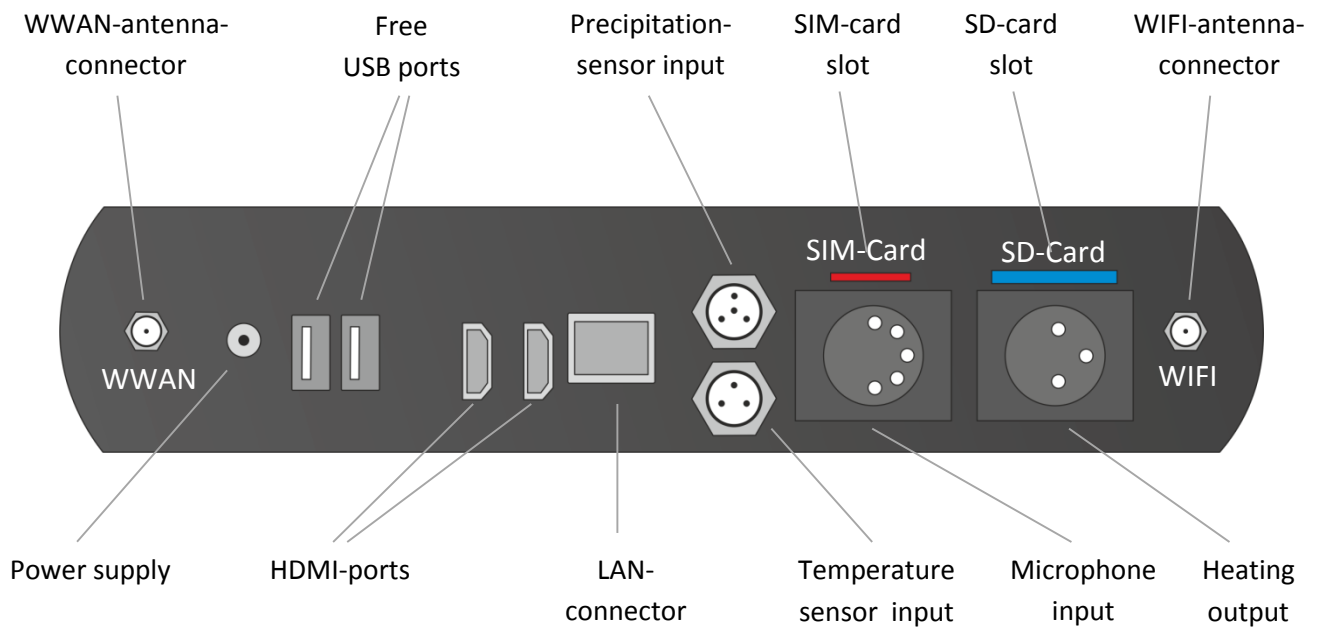
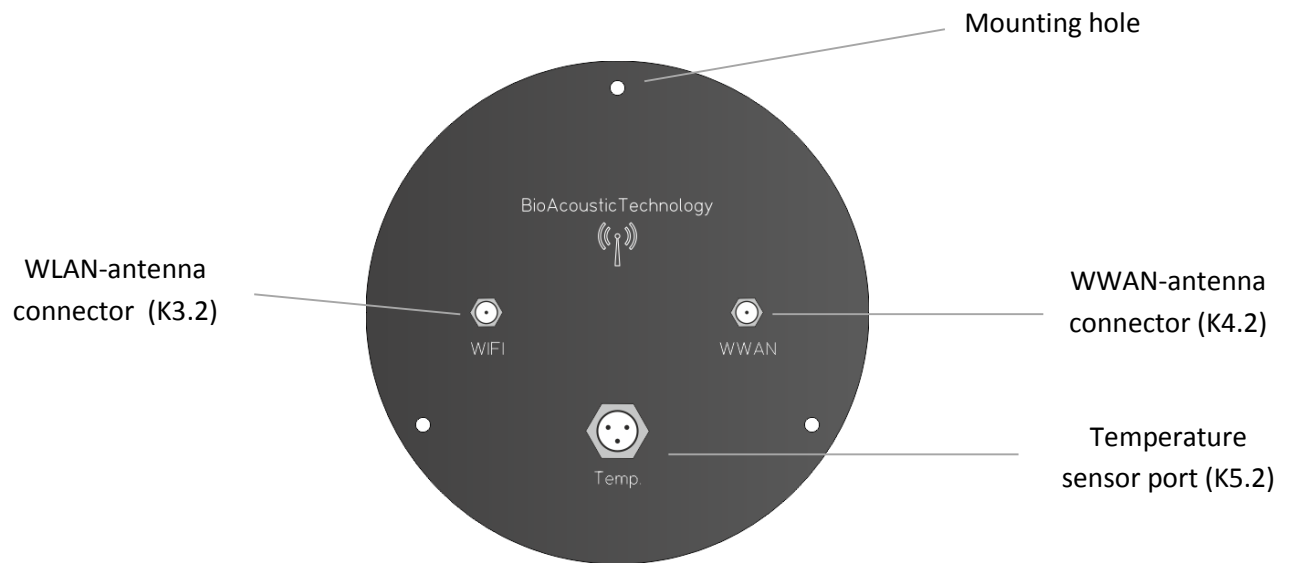
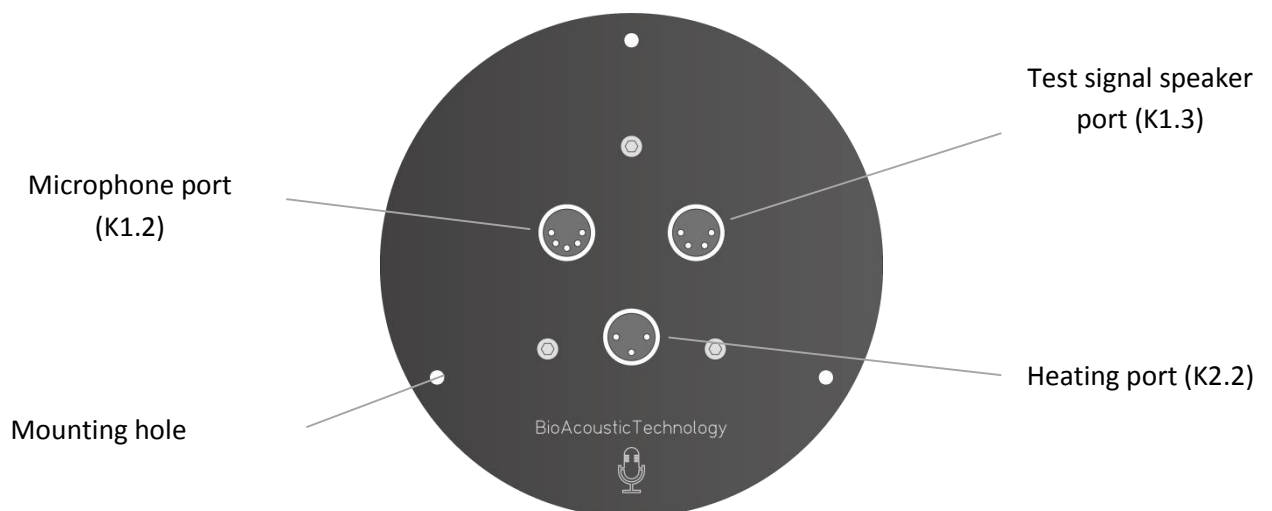

Figure 2: BATmode back
Figure 5: Antenna disc
Figure 6: Microphone disc
- Antenna disc (see Figure 5)
- Microphone disc (see Figure 6: Mi)
To acquire precipitation data a precipitation sensor can be connected the BATmode-System via a mini-XLR connector (see Figure 2). The BATmode-System is specified for the “Precipitation sensor” manufactured by Adolf Thies GmbH & Co. KG. It can be purchased including a suiting connection cable from bat bioacoustictechnology. The corresponding pin connection is presented in table 4.
1. Initially, connect antenna wires (K3 and K4) with the corresponding connectors at the BATmode and the antenna disc (see Figure 2 and Figure 5).
2. Use cable K5 to connect the temperature sensor input of the BATmode with the corresponding temperature sensor output of the antenna disc (see Figure 2 and Figure 5).
3. Connect the heating connector of the BATmode with the one of the microphone disc by using cable K2 (see Figure 2 and Figure 6).
4. Connect the single end of cable K1 with the microphone input of the BATmode (see Figure 2). Subsequently, connect both connectors at the other end of the y-wire with the microphone and heating port of the microphone disc (see Figure 6). Due to different pin numbers, it is not possible to connect cable K1 incorrectly.
5. Optionally, precipitation data can be acquired by the BATmode. For this purpose, a precipitation sensor has to be connected to BATmode (see Figure 2).
6. To simplify the parameterization of the BATmode-System conventional peripheral pc devices (mouse, keyboard, screens ...) can be connected to the free USB and HDMI ports optionally (see Figure 2).
7. If it is intended to use wired LAN connection to remotely access the BATmode-System, connect a corresponding Ethernet cable to the LAN port (RJ45) of the BATmode (see Figure 2).
8. Finally, connect the power supply to the BATmode (see Figure 2).